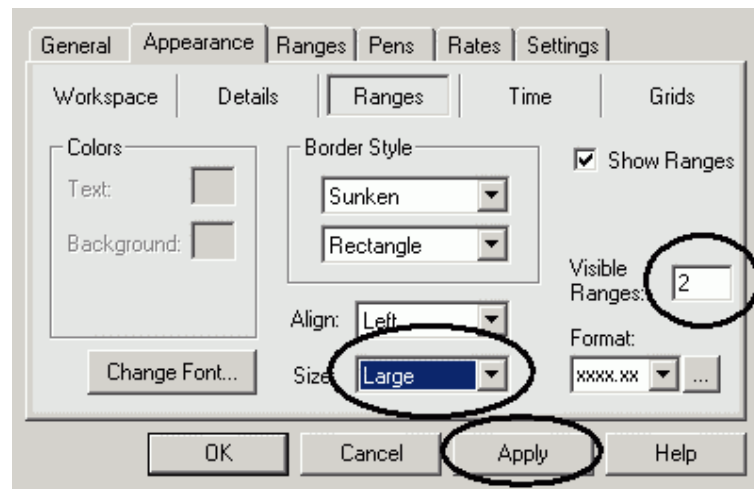

Figure 6.11. TrendWorX Viewer ActiveX Properties: Ranges Tab
While in **Configuration** mode, double-click on the TrendWorX Viewer ActiveX. The **Trend Viewer ActiveX Properties** dialog box appears, as shown in **Figure 6.11**. Each of the various tabs contains a set of parameters for controlling the trend's operation.
1. Click on the **Ranges** section in the **Appearance** tab. Change the **Size** field to **Large**. Change the **Visible Ranges** field to **2**, and then click **Apply**, as shown in Figure 6.11. Both ranges are now shown in the Trend window.